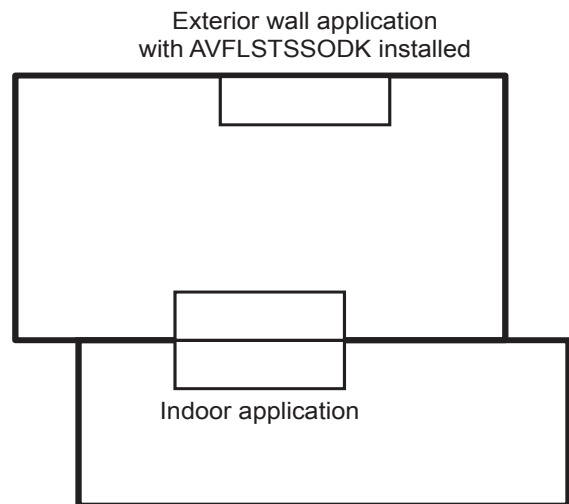
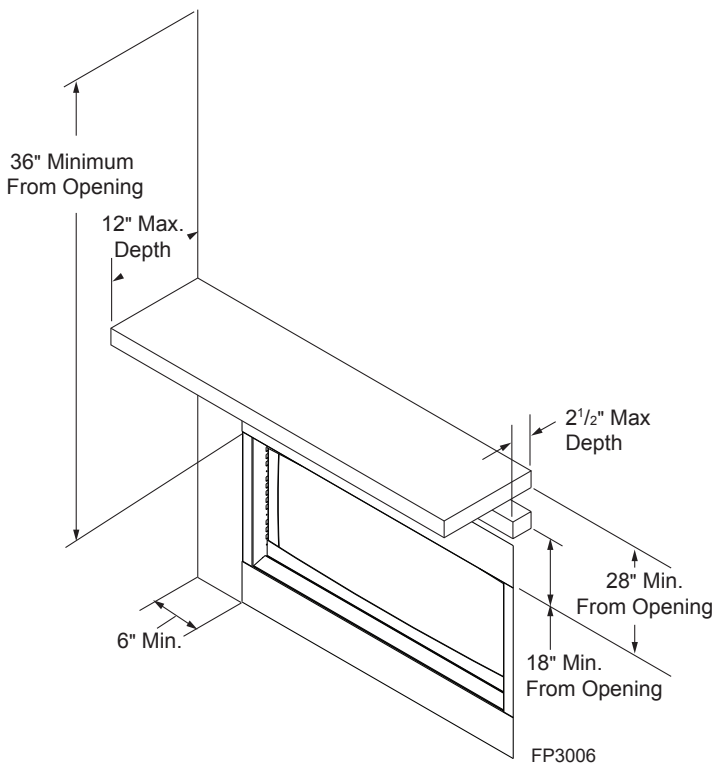

Figure 5. Possible Fireplace Locations
Figure 6. Sidewall and Ceiling Clearances
1. Position fireplace in desired location. Refer to the Fireplace and Framing Dimensions (page 7, Figures 2 and 3,) Fireplace Location (page 9, Figure 5) and Clearances and Height Requirements (page 10, Figures 6 and 7.)
- Minimize modifications to existing construction. Refer to Figure 5 below for location suggestions.
Ensure that minimum clearances shown in Figures 6 and 7 are maintained. Left and right clearances are determined when facing the front of the firebox.
**Sidewall Clearances** — The clearance from the inside of the appliance to any combustible adjacent wall should not be less than 6". Figure 6
**Ceiling Clearance** — The ceiling must be at least 36" from the firebox opening. Figure 6
**The dimensions shown in Figures 6 and 7 are minimum clearances to maintain when installing this heater. Left and right clearances are determined when facing the front of the heater.**
**Mantel clearances** — Must meet the clearance requirements detailed in Figures 6 and 7.